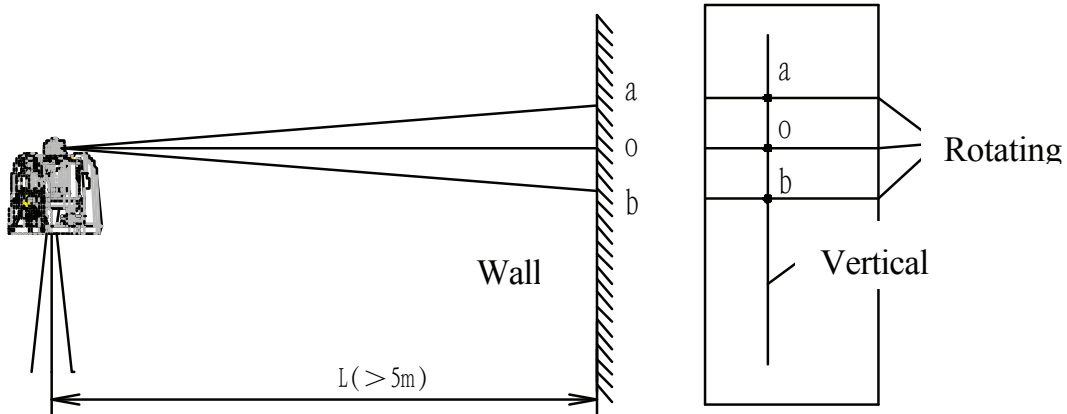

FIG. 6
- As FIG. 6, place the instrument at the position L away from the wall (X or Y-direction vial faces the wall);
- Draw the vertical line on the wall A and B respectively (as the FIG. 6);